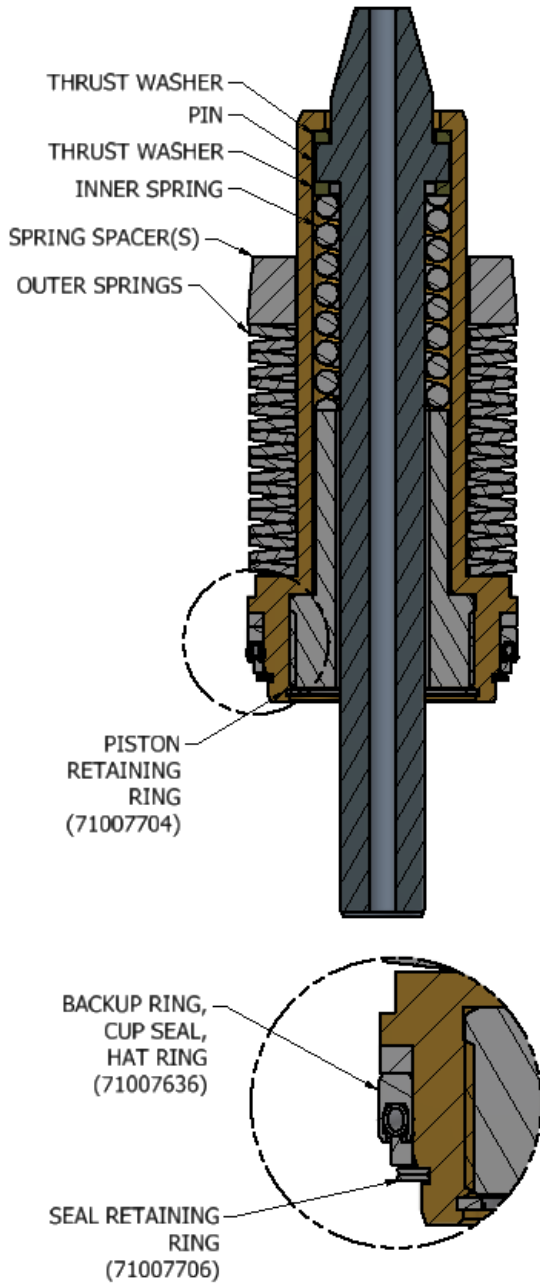

Figure 6 – Piston Assembly
- 9.2 Carefully pull out the piston assembly, outer springs, and outer spring spacer(s), being careful to not disturb the order and orientation of parts (see Figure 6).
- 9.5 Slide backup ring onto piston, then the cup seal, then the hat ring. Be sure to orient the seals correctly – the spring side of the cup seal should face out, the hat ring ridged edge should face the cup seal spring (see Figure 6).
- 10.4 Place replacement spring spacer(s) onto the piston assembly (see Figure 6).
- 14.3 If needed, re-install piston with large springs (see Figure 6 – Piston Assembly, Figure 7 – Spring Orientation).